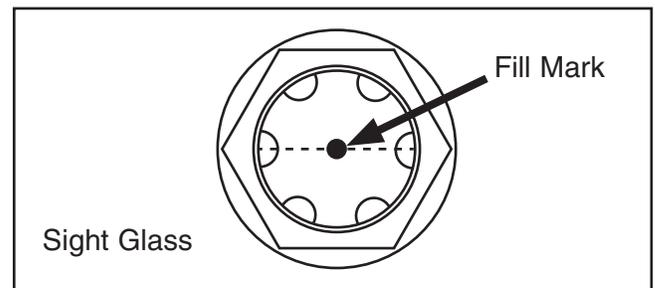

Figure 26. Sight glass fill mark.
4. Re-install drain plug, then insert funnel into top of tank and pour in new hydraulic fluid until it reaches fill mark in sight glass (see **Figure 26**).
6. DISCONNECT MACHINE FROM POWER and check hydraulic tank sight glass. Top up tank to fill mark (see **Figure 26**).